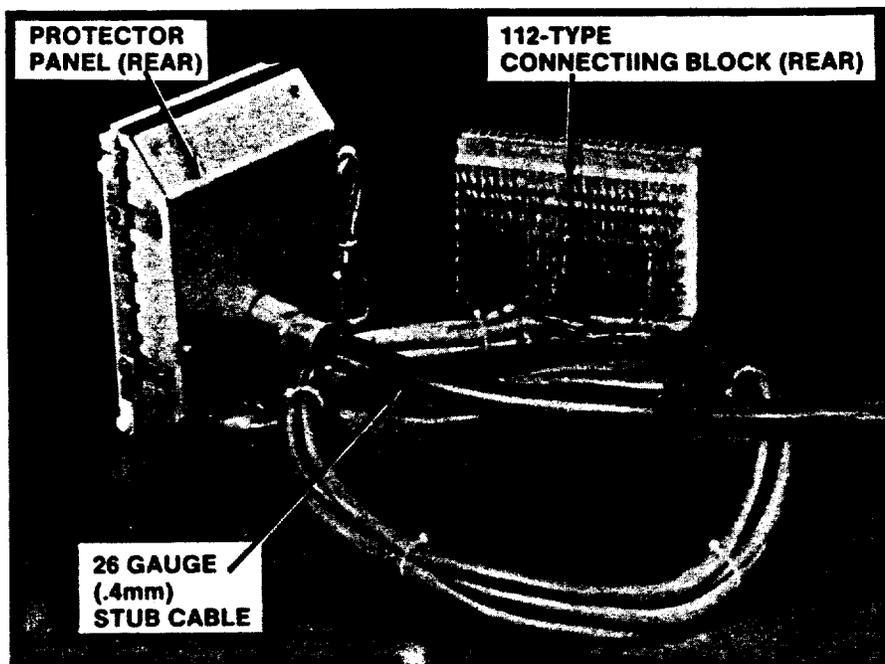

Figure 12. 307LD2-100 Connector (UL Listed)
5.04 A new UL-Listed 307LD2-100 connector (Figure 12) offers the features of the standard 307D2-100 connector, but with the added benefit of being listed by UL. This connector is factory-equipped with a 26-gauge (.4 mm), 100-pair stub cable. Table E lists the 307LD2-type connectors.